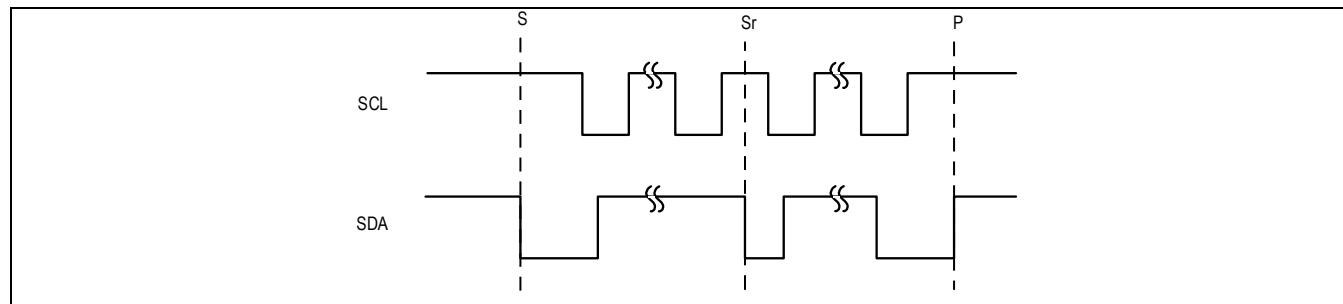

Figure 36. I²C START, STOP, and REPEATED START Conditions
When writing to the MAX20366 using the I²C interface, the controller sends a START condition (S) followed by the MAX20366 I²C address. After the address, the controller sends the register address of the register that is to be programmed. The controller then ends communication by issuing a STOP condition (P) to relinquish control of the bus, or a REPEATED START condition (Sr) to communicate to another I²C peripheral. See Figure 36.